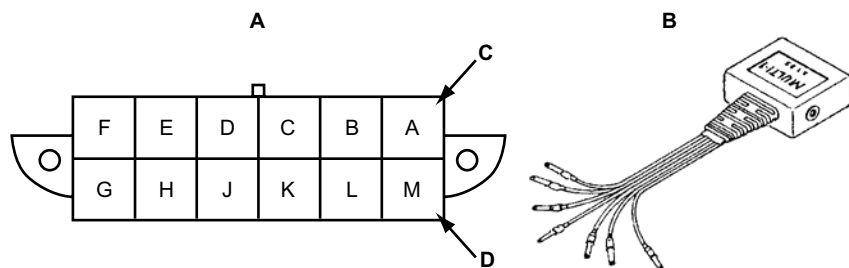

Figure 7-13 1993–95 Prizm, 1992–95 1.3L Metro, and 1995 1.0L Metro ABS connector
- Connect the MULTI-1 adapter to the connector under the left dash (Figure 7-13 on page 58).